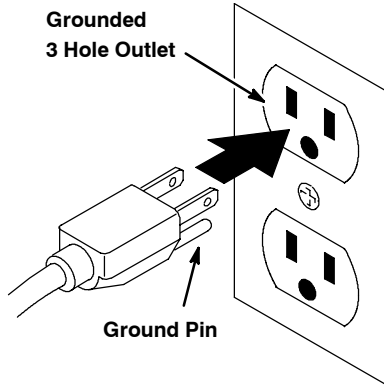

FIG. 1
1. Connect only to a grounded 120 volt A.C. (3 hole) electrical outlet (Figure 1).